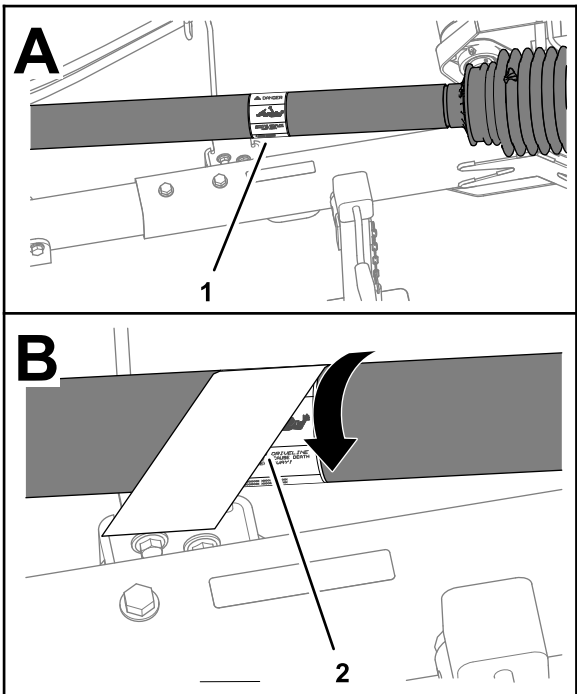

Figure 2
1. Rotate the PTO shaft guard to access the existing entanglement decal (Figure 2).
4. Place the CE entanglement decal over the existing entanglement decal (Figure 2).